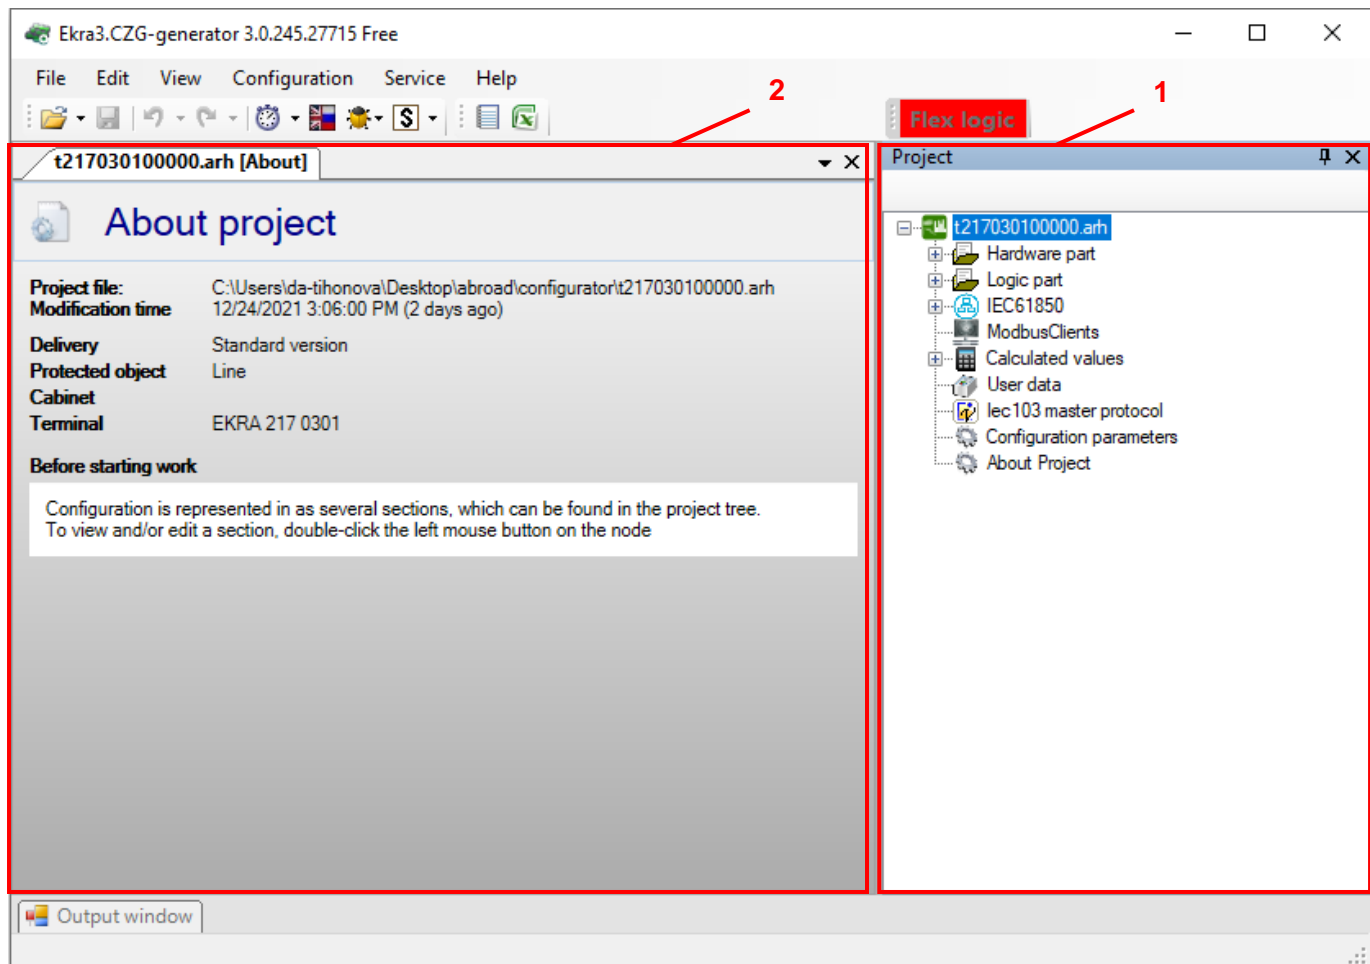

Figure 136 – Main window of the Configurator program
After opening, a project tree will be added (figure 136, item 1) and the default form **About** will open (figure 136, item 2). When opening subsequent projects, they will be added to the project tree in the same way. There are no limitations on the quantity of simultaneously open projects.